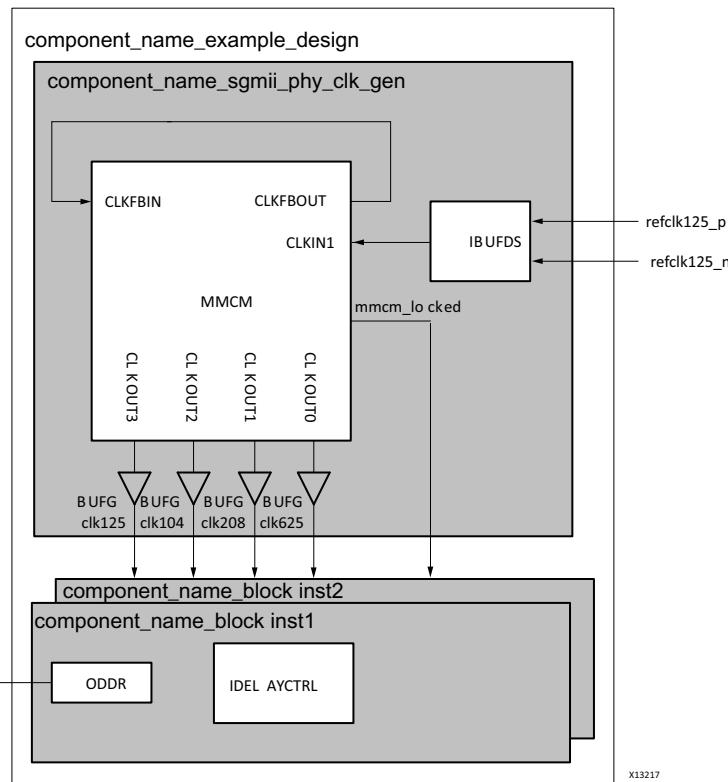
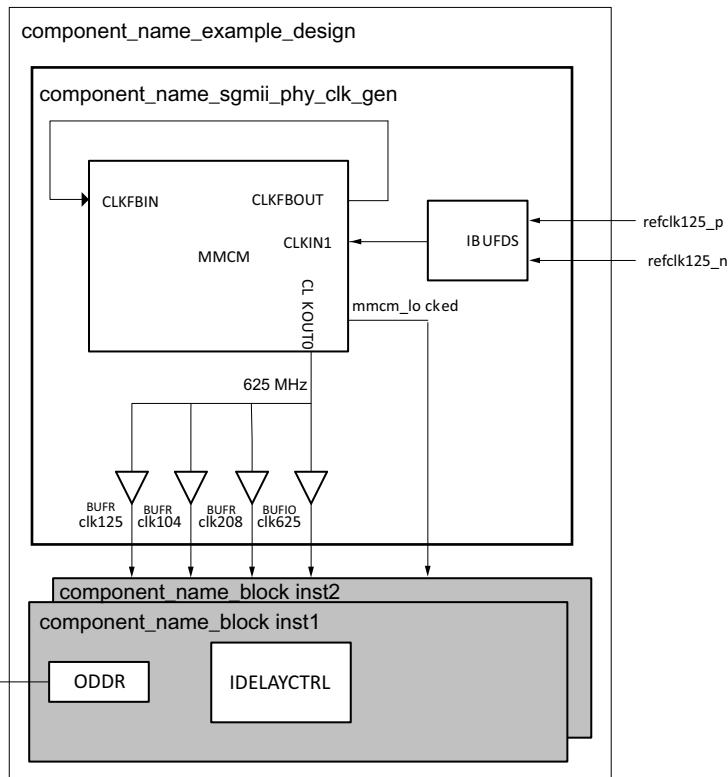

Figure 3-20: **Synchronous LVDS Implementation Clocking Logic Using BUFGs**
Figure 3-21: **Synchronous LVDS Implementation Clocking Logic Using BUFR/BUFIO**
Typical usage of synchronous LVDS solution involves multiple instances of the LVDS solution with a single clocking block. One instance of the core is generated with the **Include Shared Logic in Core** option. This instance contains all the clocking logic that can be shared. The remaining instances can be generated using the **Include Shared Logic in Example Design** option. Figure 3-20 shows the clocking logic. Table 3-3 lists the clocks in the design and their description.
Important notes relating to Figure 3-20 and Figure 3-21:
- Figure 3-21 shows that a BUFI0 can be used for the 625 MHz clock and a BUFR for the other three MMCM clock outputs. BUFR DIVIDE should be used to divide the MMCM output clock down from 625 MHz for `clk125`, `clk104`, and `clk208` to keep clock skew low.
- A BUFH can also be used on all four MMCM clock outputs in Figure 3-20. IDELAYCTRL reference clock cannot be fed from the MMCM output with the BUFH if IDELAYs need to span multiple clock regions.